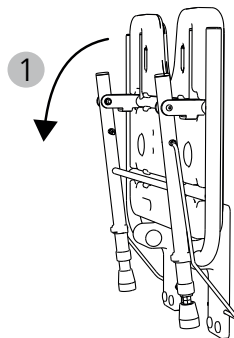

Abb. 5
1. Push the shower seat forwards and downwards by the seat. The legs fold out on their own and the folding shower seat unfolds in the process (Fig.5, 1).